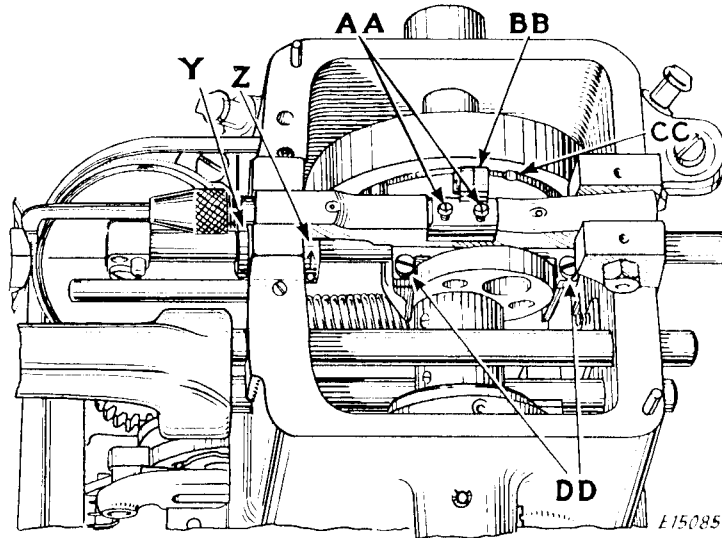

Fig. 11. Needle Bar Adjustments
To remove this roller without disturbing the cam, loosen the two screws (AA, Fig. 11), draw out the looper shaft and remove the roller arm (BB, Fig. 11) with the roller. Note that the roller can be removed or replaced in the cam raceway only through the cut at (CC, Fig. 11).
The needle bar bushing (Y, Fig. 11, page 12) is split and may be drawn in, to take up any play which develops, by turning the threaded collar (Z, Fig. 11) in the direction indicated by the arrow in Fig. 11. This collar is provided with holes and may be tapped around the needle bar with a small punch.
The needle bar may be set to the correct position after loosening the two clamp screws (DD, Fig. 11).
See that the needle bar is turned so that the side of the tension plate (HH) is about square with the surface of the disc. Align the groove in the needle guard (KK) with the needle, and have the needle locate in the center of the groove; then tighten the clamp screws (DD, Fig. 11). These screws need not be excessively tight.